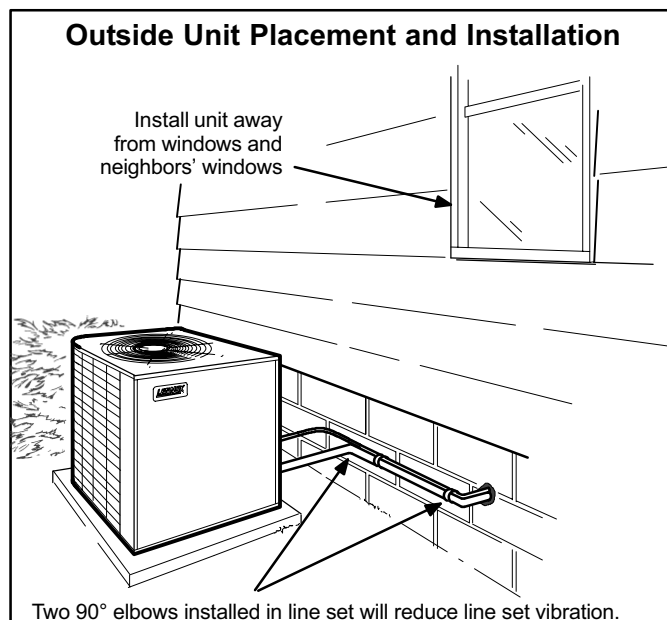

Figure 5
1. **Placement**—Be aware some localities are adopting sound ordinances based on how noisy the unit is at the neighbors' home, not at the original installation. Install the unit as far as possible from the property line. When possible, do not install the unit directly outside a bedroom window. Glass has a very high level of sound transmission. Figure 5 shows how to place the outdoor unit and line set.